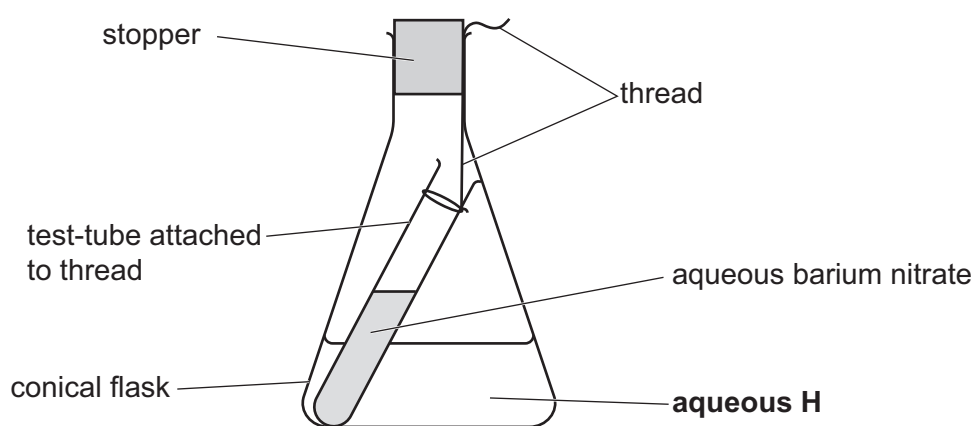

Fig. 2.1
- step 4** Assemble the apparatus shown in Fig. 2.1 so that the thread is held between the stopper and the conical flask.
- step 5** Use a balance to measure the mass of the assembled apparatus shown in Fig. 2.1.